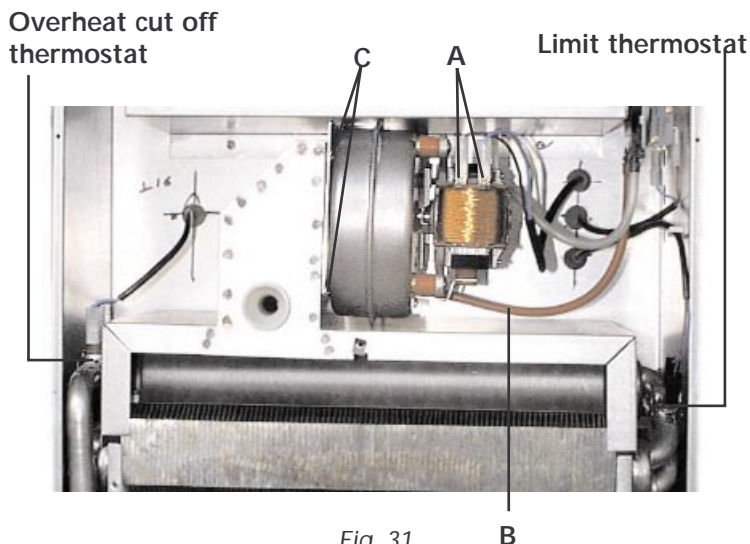

Fig. 31
7.12 Removal of fan (fig. 31)
7.13 Limit thermostat, or overhear cut off thermostat (fig. 31)
- Identify the location of thermostat from fig. 31